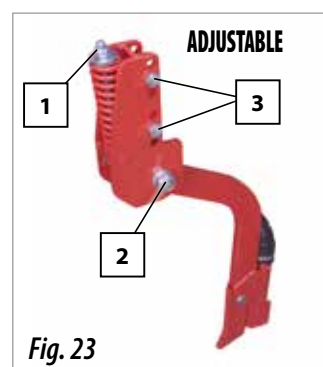

Fig. 23
To regulate the pressure transmitted by the arm to the ground, actuate on the nut of the spring (1, Fig. 23). These arms are attached to the support by a special bolt SOLÀ (2, Fig. 23) with a self-locking nut. By acting on this nut the lateral play of the arm is controlled. These arms are adjustable in depth, allowing to lower the arms to regulate their height:
- 1- Remove the bolts and nuts (3, Fig. 23).
- 3- Insert the bolts and nuts into the new housing (3, Fig. 23).